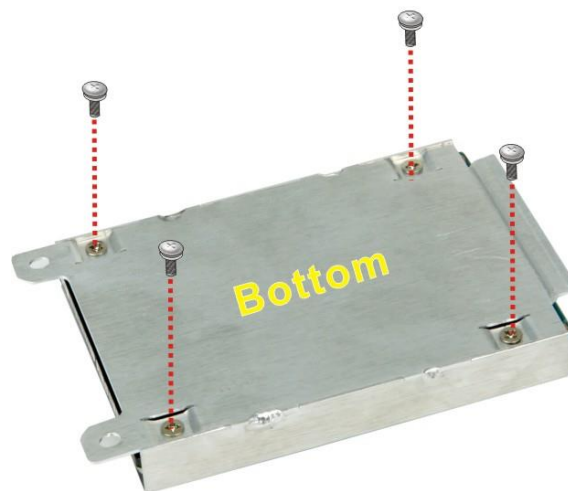

Figure 3-3: Secure HDD
- Step 4:** Insert an HDD into the HDD bracket, aligning the four retention screw holes on the bottom of the HDD bracket with the retention screw holes on the bottom of the HDD (**Figure 3-3**).
- Step 5:** Insert four retention screws (M3*3) into the bracket (**Figure 3-3**).